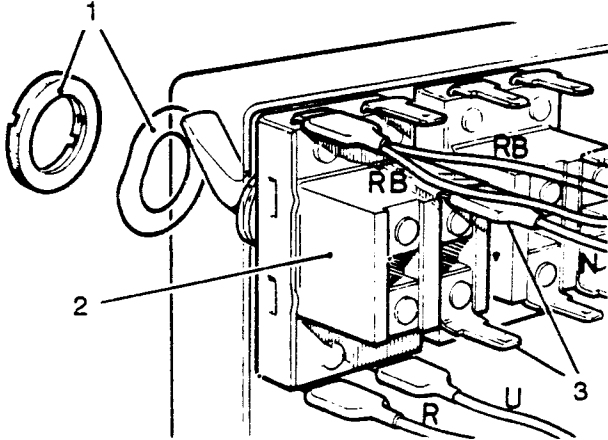

Fig O5.16
- (3) Refer to Fig O5.16. Unscrew the lock ring and wave washer (1) from the switch knob.
- (4) Disconnect the leads from the back of the switch.
- (5) Withdraw the switch (2).